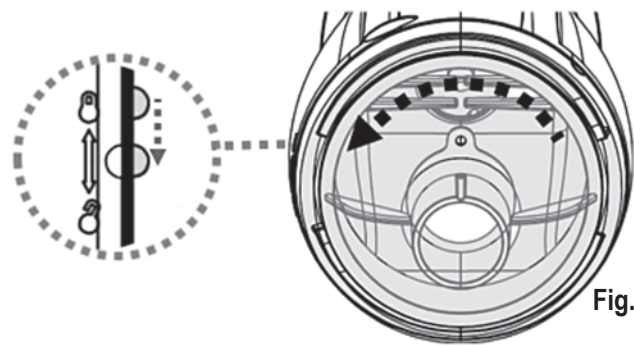

Fig.1
2. Hold the electric vacuum body and turn the canopy anticlockwise until the white marking on the canopy reaches the lock-unlock marking. (Fig.1) Detach the canopy and remove the filter bag / filter cage from the electric vacuum